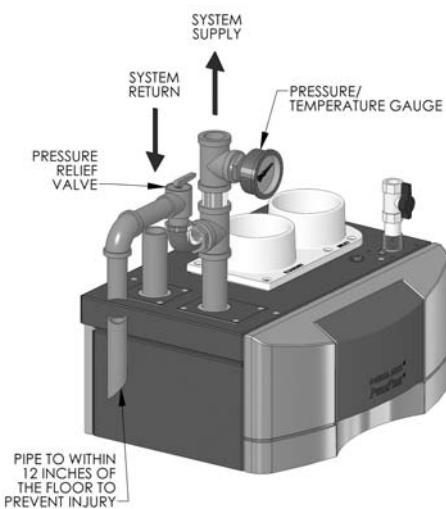

Figure 4.2: Relief Valve Installation – PF-50, PF-80, PF-110 & PF-140
1. *Pressure/Temperature Gauge*: A combination pressure/temperature gauge is provided with each *PUREFIRE*[®] boiler to be mounted in the piping from the boiler supply to the system as shown in Figure 4.2 & 4.3. Most local codes require this gauge.
8. **Pressure Relief Valve:** The boiler pressure relief valve is shipped separately for field installation. The valve is to be installed as shown in Figures 4.2 or